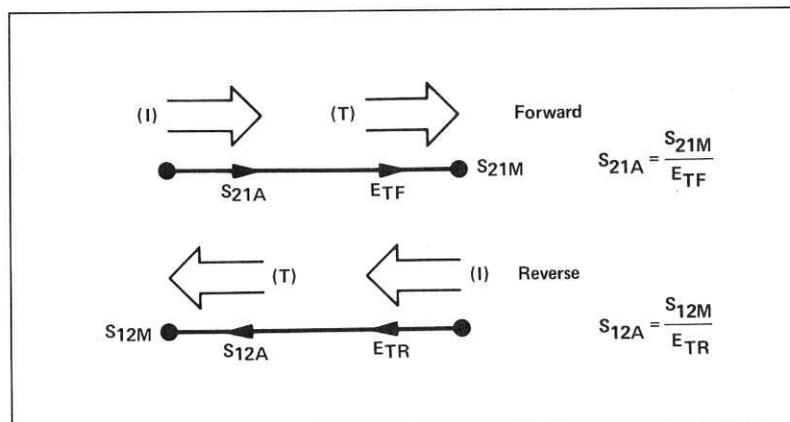

Figure A5-12
The transmission coefficient is measured by taking the ratio of the incident signal (I) and the transmitted signal (T) (Figure A5-12). Ideally, (I) consists only of power delivered by the source, and (T) consists only of power emerging at the test device output.